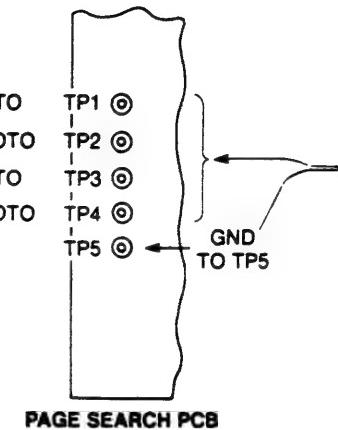

Figure 3-6B
4. Connect the Channel 1 Scope Probe to TP1 (B LEFT PHOTO) and TP5 (GND) on the M-656 Page Search PWB (Figure 3-6B).
12. Connect the Channel 1 Scope Probe to TP2 (B RIGHT PHOTO). See Figure 3-6B.
14. Connect the Channel 1 Scope Probe to TP3 (A LEFT PHOTO). See Figure 3-6B.
16. Connect the Channel 1 Scope Probe to TP4 (A RIGHT PHOTO). See Figure 3-6B.